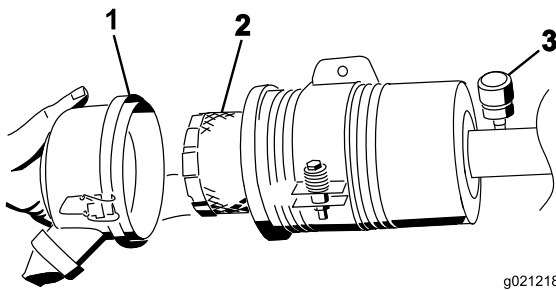

Figure 54
3. Remove and replace the filter (Figure 54).